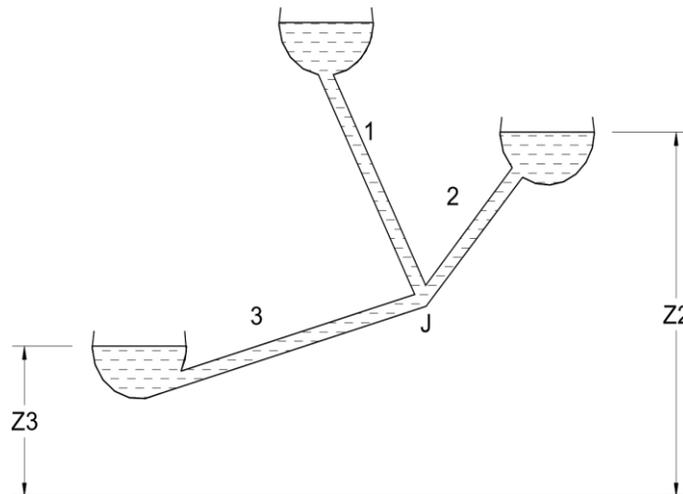

Fig.1
2. In Fig.1, find the discharges for water at 20 °C with the following pipe data and reservoir elevations: